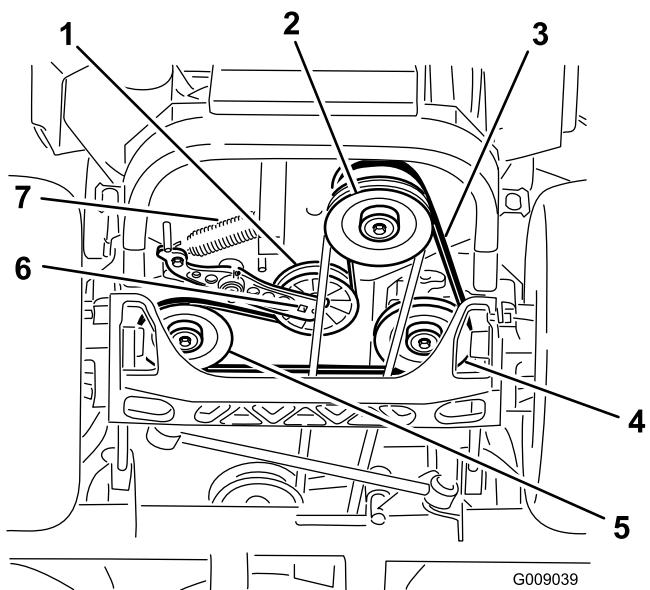

Figure 83
5. Use a ratchet in the square hole in the idler arm to remove the idler spring (Figure 83).
6. Unhook the idler spring from the frame (Figure 83).
9. Using a ratchet in the square hole in the idler arm, install the idler spring to the frame (Figure 83).
4. Raise the machine and support it with jack stands (Figure 83).